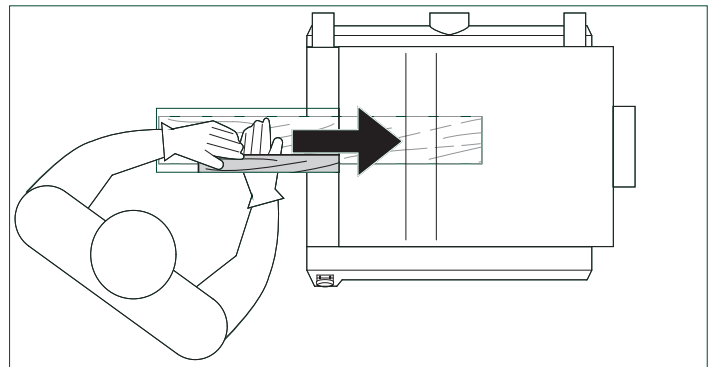

FIG. 38
- When planing, the feeding direction of the workpiece is left-to-right under the cutterhead. FIG. 38.
1. To feed the workpiece into the machine, assume proper operating position, FIG. 38. Stand offset to one side of the feed opening to avoid any kick-back, should it occur. Do not push the lumber once the infeed roller has been engaged. Let the infeed roller move the workpiece into the planer at its own pace.